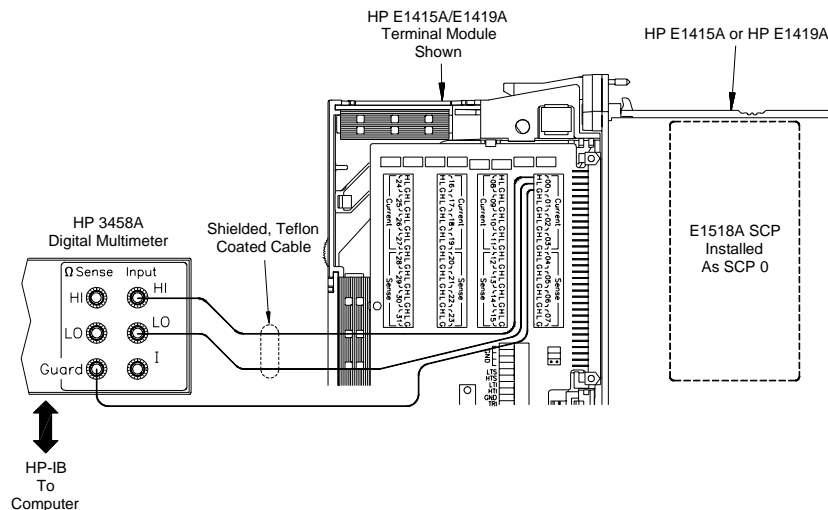

Figure 2-24. Typical DMM Connections for Voltage Measurements.
- [a] Connect wiring to terminal block and DMM (see Figure 2-24)